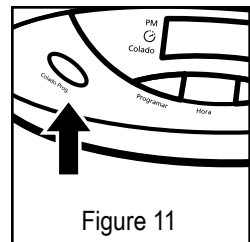

Figure 11
5. Press the “Colado Prog.” button to activate the Delay Brew mode. See Figure 11.